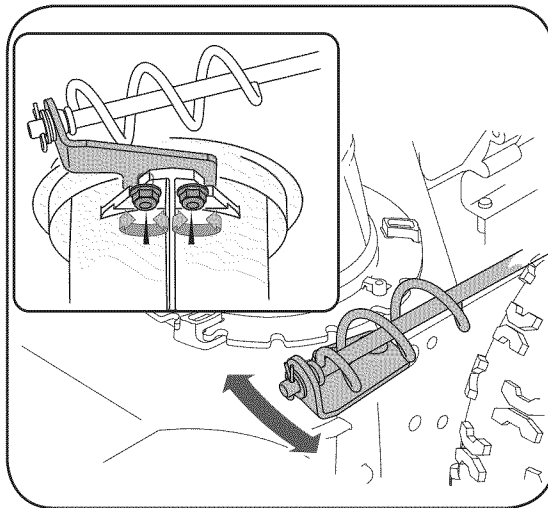

Figure 11
1. Loosen the two nuts which secure the chute bracket and reposition it slightly. See Figure 11.